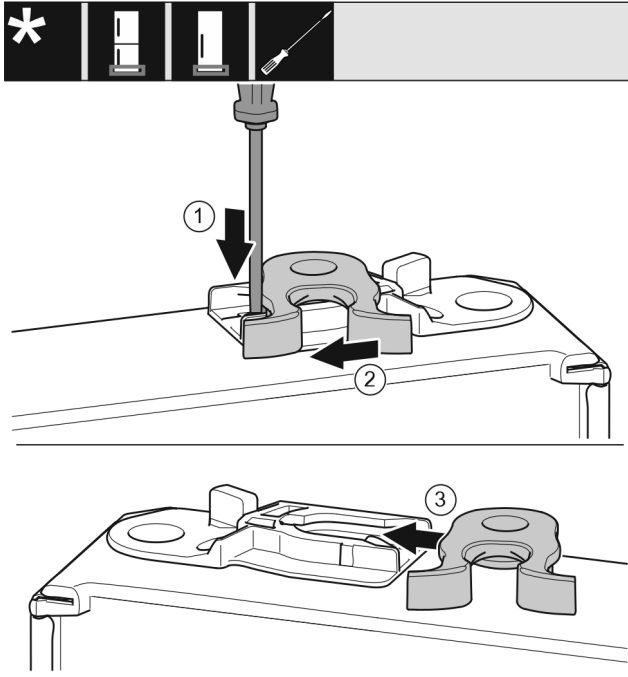

Fig. 33
- ▶ Use a slotted screwdriver to push the tab Fig. 33 (1) downwards.
- ▶ Pull the closing hook Fig. 33 (2) out of the guide.
- ▶ Insert the closing hook Fig. 33 (3) into the guide on the other side.